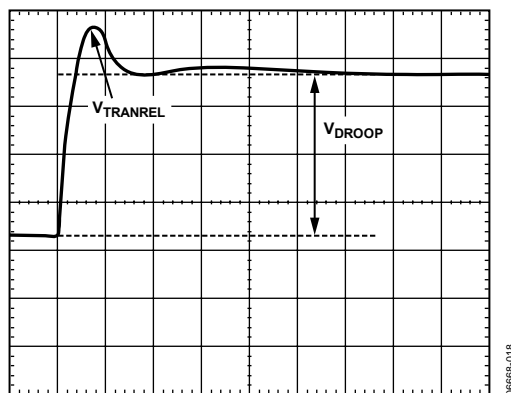

Figure 17. Transient Setting Waveform
20. For load release (see Figure 17), if V_{TRANREL} is larger than the allowed overshoot, there is not enough output capacitance. Either more capacitance is needed, or the inductor values need to be made smaller. When changing inductors, start the design again using a spreadsheet and this tuning procedure.